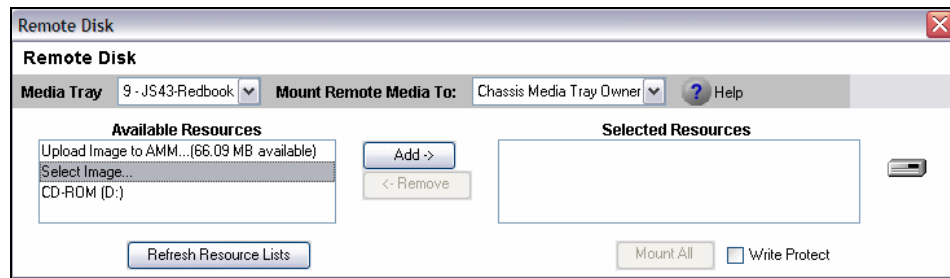

Figure 7-85 Select image option
- After selecting the Remote Drive option, you will see the Remote Disk window appear. Select the **CD ROM** and/or **Select Image** option. You can use either or both. Figure 7-85 on page 329 provides an example of the Select Image option.